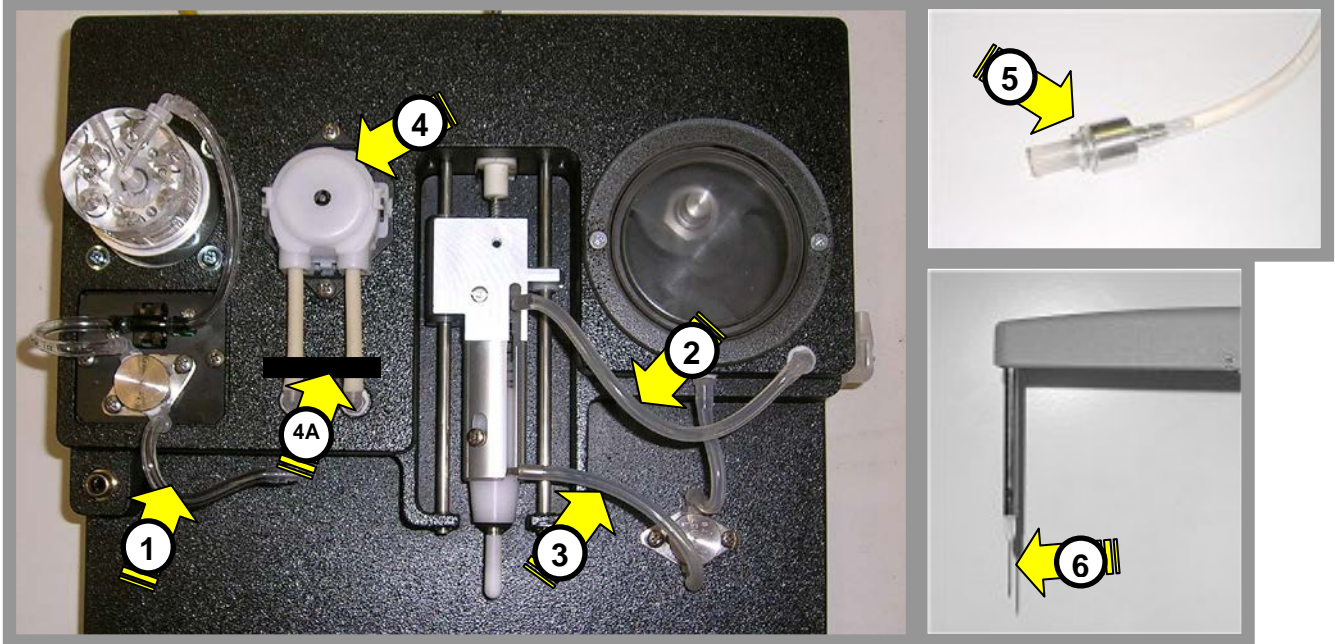

Figure 2
- Peristaltic pump cartridge (ref. 4 fig 2): remove both ends of the peristaltic pump tubing from the diluter manifold. Squeeze the locking catches and remove the defective cartridge. Place the new cartridge on the drive shaft and gently press to snap-fit. Carefully attach the pump tubing to both fittings in the diluter manifold.
- Tube for valves (ref. 1 fig 2): detach valve tube and discard it. Carefully attach ends of valve tubing to appropriate fittings (Figure 2).
- Aspiration tube for washing module (ref. 2 fig 2): detach defective tube and replace with new aspiration tube.
- H₂O tube for washing module (ref. 3 fig 2): remove and discard the old tubing. It is possible that a small quantity of distilled water will flow out of the water reservoir. Immediately dry it after the tube replacement. Carefully attach the ends to the valve and to the appropriate fittings of the water reservoir and the washer.
- Tubular filter for water container (263 μ) (ref. 5 fig 2): maintenance includes annual replacement (or if the filter is completely clogged).
- Sampling arm: maintenance of the sampling arm includes annual replacement (or if the device does not work correctly) of the sampling needle (ref. 6 fig 2). To replace the needle, loosen and remove retaining nut with needle from the needle holder. Clean or substitute with new needle. Then gently push in needle into the needle holder until fully seated and screw it gently back into the needle holder.